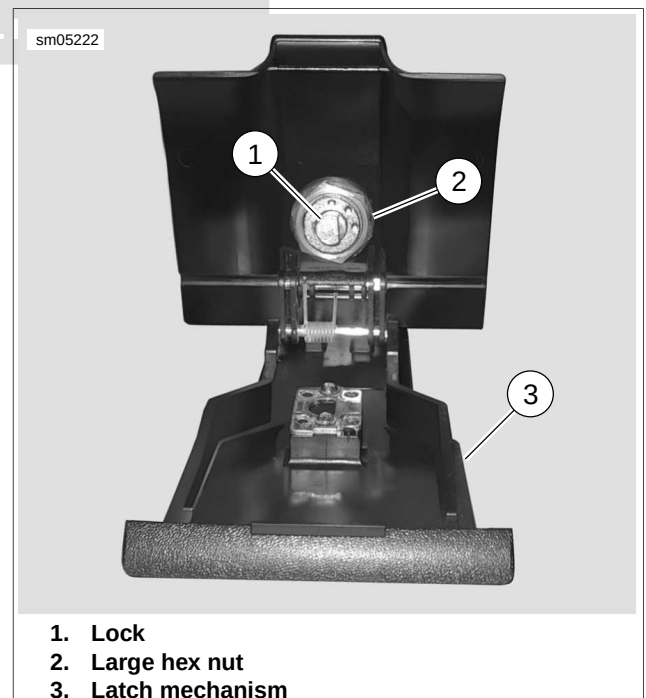

Figure 2-213. Latch Mechanism and Lock
- See Figure 2-213. Loosen large hex nut and remove lock from latch mechanism.
1. See Figure 2-213. Install lock into **new** latch mechanism and secure with large hex nut.